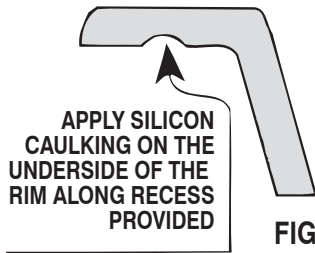

FIG. 2
3. Apply a continuous bead of $\frac{1}{4}$ " diameter silicon caulking to the underside of the rim along the recess provided (see Fig. 2).